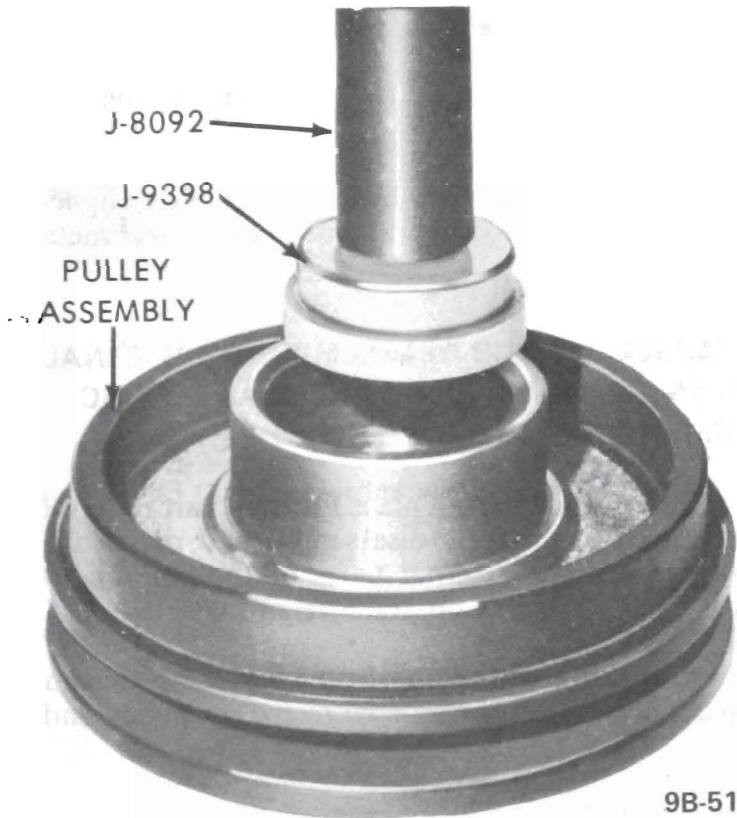

Figure 9B-58 Removing Bearing from Pulley Assembly
6. Mark position of coil and housing assembly in relationship to shell of compressor, remove coil and housing retainer ring (see Figure 9B-60) using No. 26 truarc pliers (J-6435), and lift out coil and housing assembly.